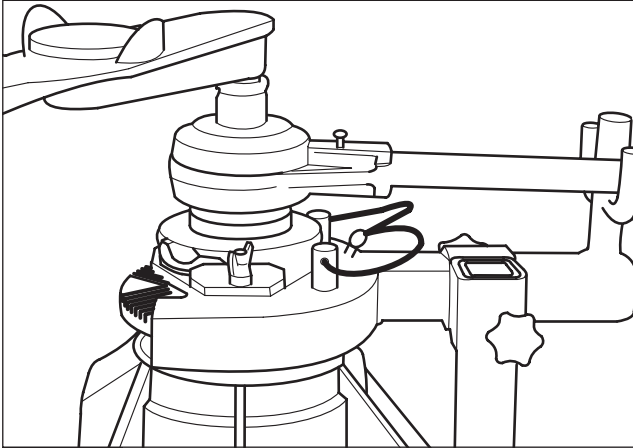

Fig. 2.63
4. Tighten flange lock nut to a torque of 2000 ± 2200 Nm. (Fig. 2.63)